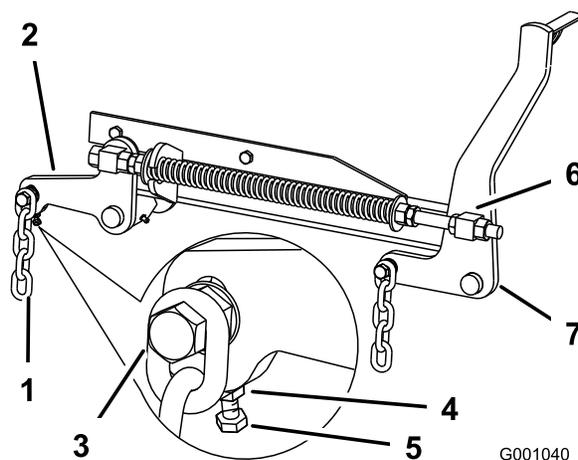

Figure 74
7. If the measurements at positions **B** or **C** are not correct, loosen the bolt attaching the rear chain to the rear support arm (Figure 74).
8. Loosen the jam nut under the rear support arm and adjust the adjustment bolt to get a measurement of 3-1/8 to 3-1/4 inches (80 to 83 mm)(Figure 74).
7. Loosen the front swivel jam nuts, at the front of the right and left swivels, approximately a 1/2 inch (13 mm) (Figure 74).
8. Adjust the lift nuts on both the left and the right side of the machine to achieve 1/4 to 3/8 inch (6 to 10 mm) lower in front at **A** than in the rear at **B** (Figure 74).